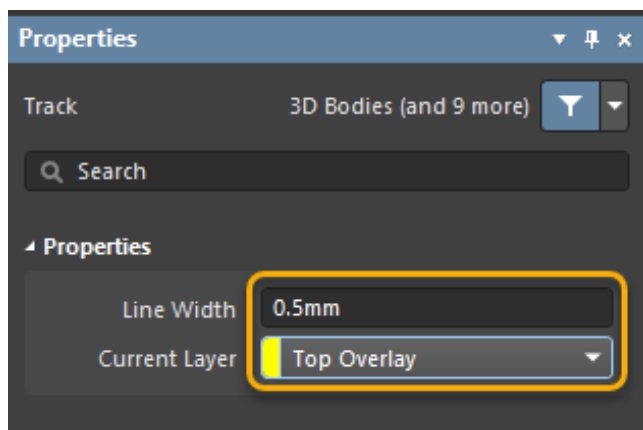

Figure 38. Line Properties
57. Next hit the **Tab** key to open the *Properties* panel, set the Line Width to 0.5mm, see Figure 38. Press **Enter** or select the pause symbol  to continue the line placement.